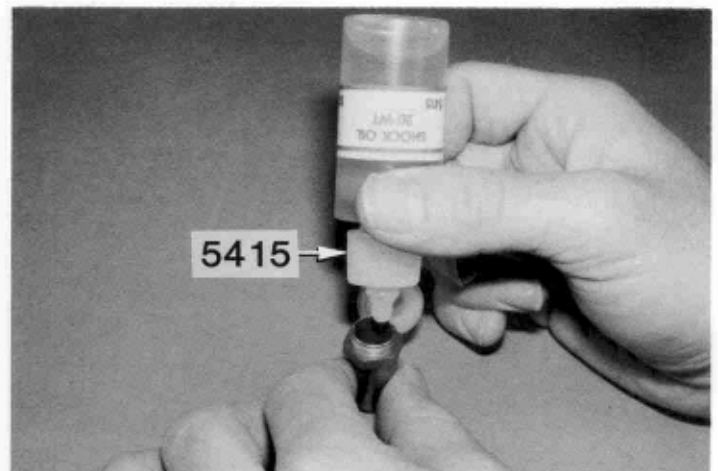

Fig. 58
□ **Fig. 58**— Hold the shock body upright and put at least five drops of oil in it. We want the oil to run down inside and lubricate the "O"-rings. For you serious racers, Associated also has silicone shock oil, which is the best available